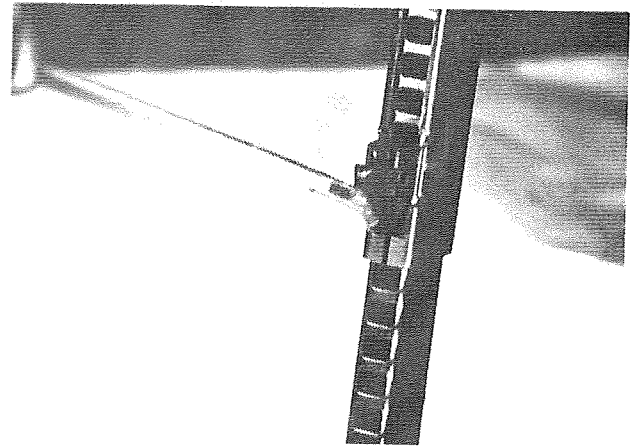

Figure 27
27. Place the stabilizer jack handle into the ratchet on the stabilizer jack and lift upward slowly. This releases the stabilizer jack and the corner of the trailer will drop somewhat. See Figure 27.